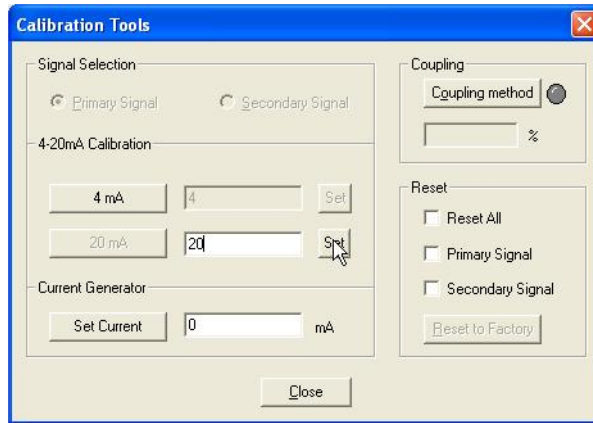

Figure 231 Setting 20 mA Calibration
3. Enter the reading from the milliammeter into the field and click **Set** (Figure 231).